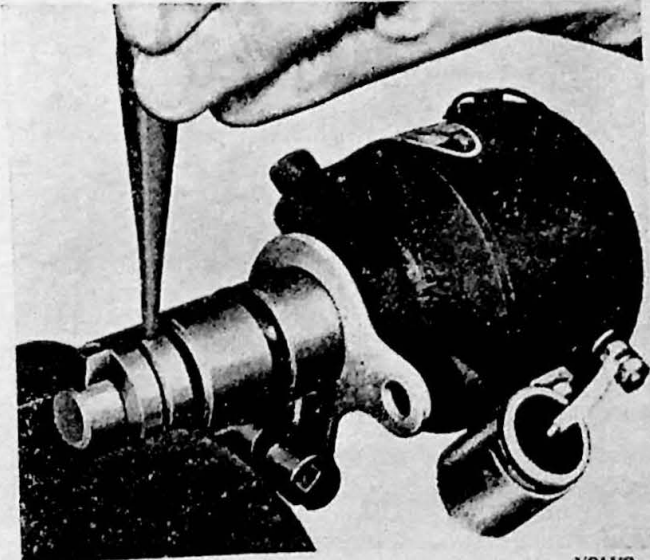

Fig. 10-55. Removing the collar
5. Lift the stop spring (locking spring) and knock out the pin for the collar and pull it off. Mark the position of the collar in relation to the shaft. Fig. 10-55.